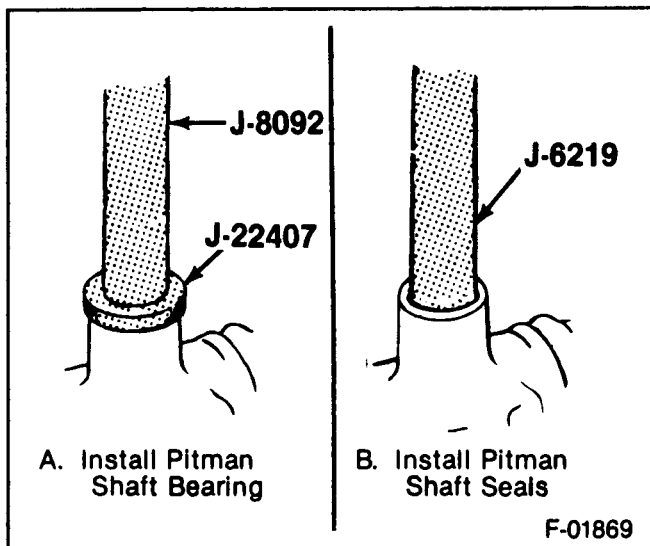

Figure 21—Installing the Pitman Shaft Bearing and Seals
3. Bearing (209) using J-22407 and J-8092.
4. Washers (207) and seals (208) using J-6219 (figure 21).
5. Retaining ring (205).
6. Pitman shaft (221), gasket (224) and side cover (225).
7. Bolt (226) and nut (227).